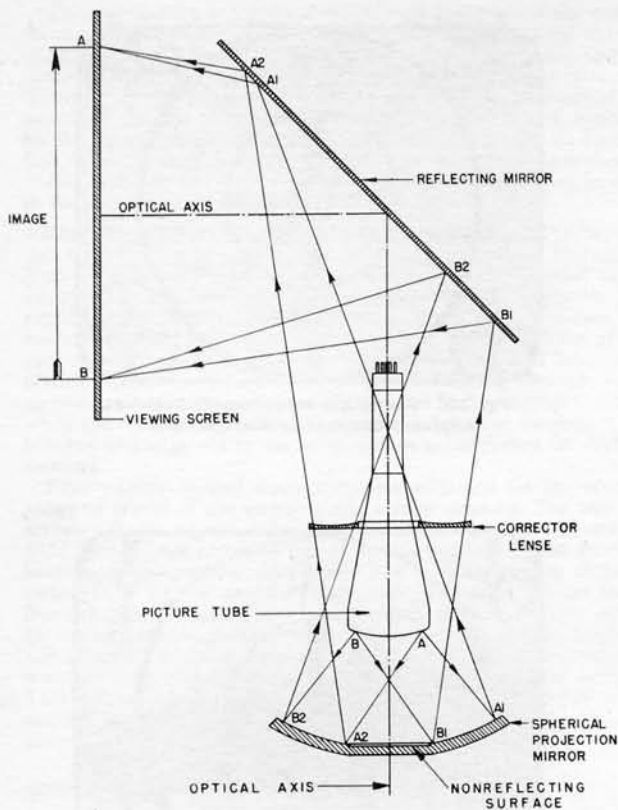

Fig. 33. Schematic of Optical System
Figure 33 shows all the components of the optical system. In order to understand the principle, we follow a ray of light produced by the picture tube. An element "A" of the picture on the tube is reflected by the spherical mirror at A1 and A. Its center is non-reflectant so that light will not be reflected back onto the face of the picture tube which would result in reduction of picture contrast. The reflected ray "A1" passes through the corrector lens and reaches the reflector mirror at A1. Then the ray is reflected by the mirror to A on the viewing screen. If we follow the reflected ray A2 on the left side of the spherical mirror we see that it passes through the corrector lens and hits the reflecting mirror at A2 and is then reflected to the same point A on the viewing screen. Without the corrector lens the second ray would not hit the viewing screen at the same point A, causing a blurred image due to spherical aberration. If we take a picture element B on the left side of the picture and follow the path of the ray, we note that the two rays B1 and B2 follow a similar path as the rays of the right picture element A and we obtain the second point B on the viewing screen.
3. Remove entire picture tube mounting bracket by removing the small center screw (13), and its tapped plate beneath, in each end holding bracket to corrector lens mounting plate. Also, remove the two adjacent small screws, with nuts and washers, from each end of bracket.
6. A black dot should be visible through the sighting jig. This dot is the image of the hole in the center of the sighting jig plate and should appear concentric with this hole. To adjust dot image to align concentric with hole, tilt the corrector lens mounting plate by virtue of the  $\frac{1}{4}$ -inch nut adjustments of the four-corner mounting bolts (9) in the mounting plate. This adjustment establishes the correct angular alignment of corrector lens with flat mirror and screen.
7. Remove small mirror from corrector lens and shine light from gooseneck fixture upon corrector lens. As viewed through the sighting jig, the image of the corrector lens hole should appear concentric with hole in sighting jig plate. To adjust corrector lens mounting plate for this condition, loosen all four corner top mounting nut adjustments (9) and move mounting plate laterally in the direction that will center the image upon the hole. This adjustment centers the corrector lens to the axis of the optical system. (See Figure 33.)
8. Tighten all four corner mounting nuts (9) firmly and check steps 6 and 7.